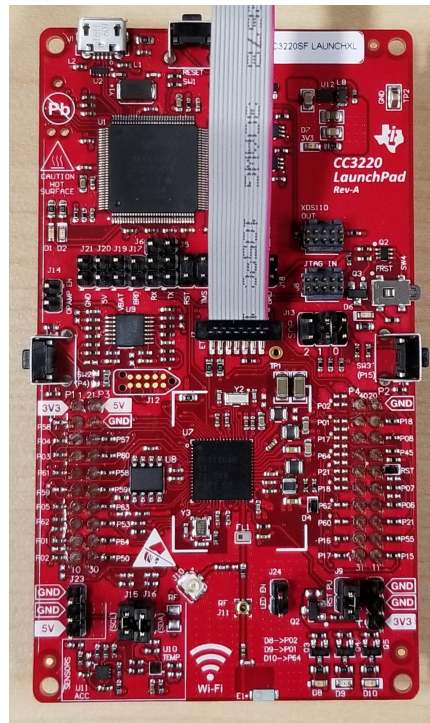

Figure 23. XDS110 ETHDR Connection to CC3220SF Device
3. Connect the 14-pin auxiliary cable to J7, as shown in Figure 23.